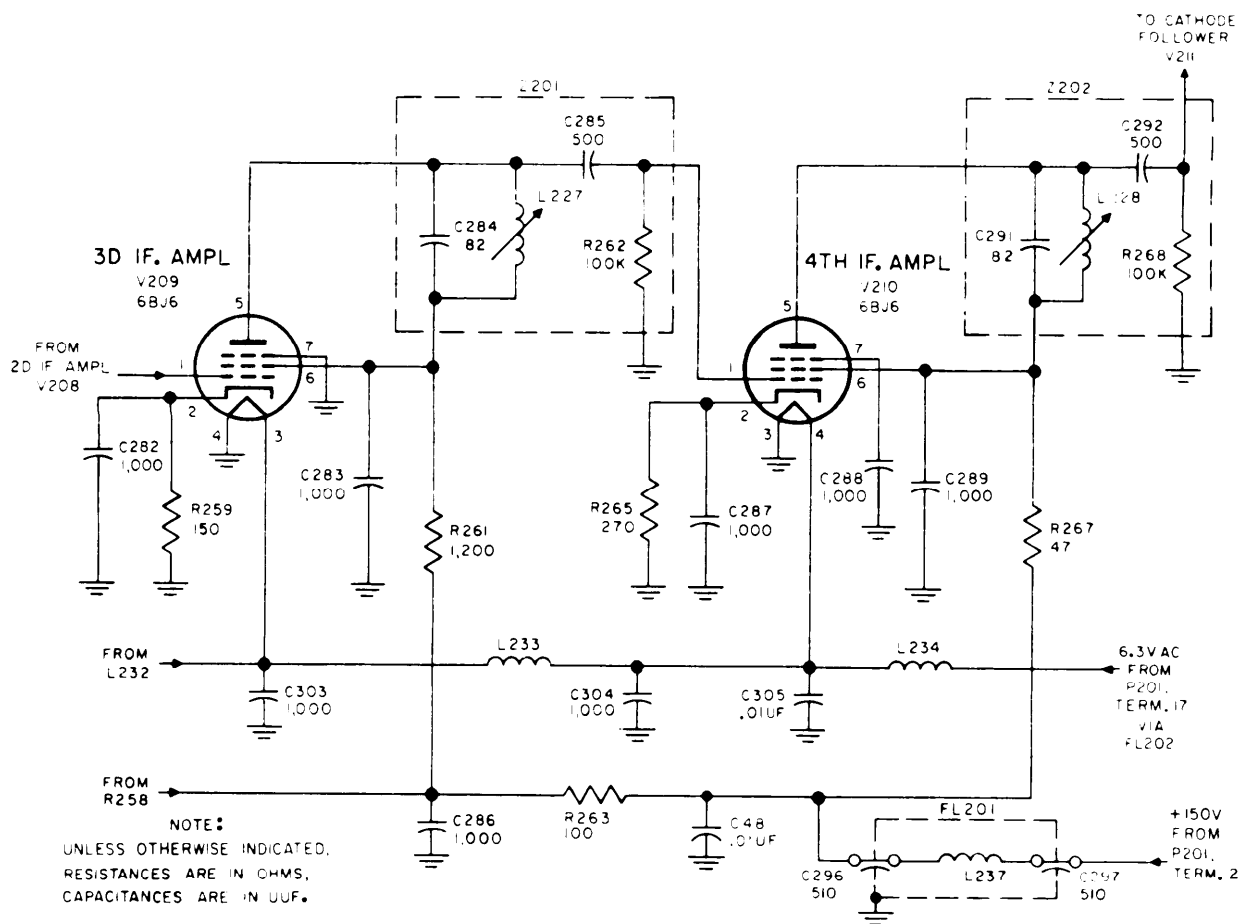

Figure 26. Tuning unit 2, if. amplifiers V209 and V210, schematic diagram.
b. If. Amplifiers K207 and V208 (fig. 25). Although all four if. amplifiers are essentially the same in function and description, the method of biasing V207 and V208 differs from that employed in the circuits for V209 and V210 (fig. 26). A second difference exists because double-tuned transformers are connected in the plate circuits of V207 and V208; single-tuned impedance networks are sufficient to maintain the desired selectivity in third and fourth amplifiers, V209 and V210 (fig. 26).
- (1) The secondary of if. interstage transformer T205 is tuned to 10.7 mc and feeds the signal to the control grid of V207 through capacitor C266. Cathode bias is supplied by the voltage drop across R249, which is bypassed by C268. Grid resistor R248 is connected through feedthrough capacitor C267 to the variable arm of GAIN control R241. The feedthrough capacitor functions as an rf bypass and couples the bias voltage from the panel-mounted GAIN control to the grid of V207. The amplification of the signal through V207 is dependent on the bias voltage applied to the grid (pin 1) through GAIN control R241. Resistor R251, bypassed by C273, decreases the screen grid and plate voltage. Resistor R254 and capacitor C269 provide decoupling for the plate and screen circuits. Bypass capacitors C299 and C302, together with chokes L231 and L232, prevent rf currents from circulating in the heater circuit. The output of V207 is applied to the primary of T206. The primary winding and the parallel capacitor, C272, resonate together at the intermediate frequency. The output of T206, developed across the secondary winding and parallel capacitor C274, is coupled to second if. amplifier V208. Resistor R253 lowers the Q of the transformer tuned circuit.
- (2) The signal from tuned transformer T206 is coupled through capacitor C275 to the grid of second if. am-
c. If. Amplifiers V209 and V210 (fig. 26). The output of second if. amplifier V208 is coupled to the grid of third if. amplifier V209. This stage operates with cathode bias developed across resistor R259, which is bypassed by capacitor C282. Resistor R261, bypassed by C283, decreases the screen grid and plate voltage. Tuned coil L227 completes the dc path to the plate (pin 5) of amplifier V209. Resistor R263 and capacitor C286 provide decoupling. Additional decoupling in the +150-volt supply line is provided by low-pass filter FL201. This filter permits the 150-volt B+ output from the power supply to be coupled through feedthrough capacitors C297 and C296 to the 150-volt bus in the if. amplifier subassembly; simultaneously, the filter coil presents a high-impedance input to the 10.7-mc frequencies present in the plate and screen circuits. Bypass capacitors C303, C304, and C305, together with chokes L233 and L234, prevent rf currents from circulating in the heater circuit. A second low-pass filter network, FL202, provides additional protection in assuring that the heater power source is free of residual rf and if. currents. The output of V209 is applied to tuned impedance network Z201. This network consists of tuned coil L227, which resonates with capacitor C284 to the desired center frequency of 10.7 mc. Capacitor C285 is included within the shielded network, and couples the output to fourth if. amplifier V210. Resistor R262, also housed within the shield, is the grid return for V210.